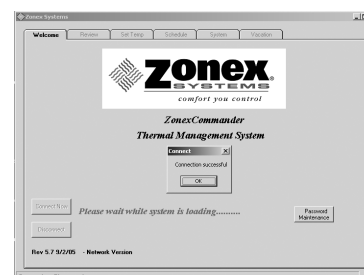

Fig. 9
- Click on **OK** in the **Connection Successful** window (see Fig. 9).